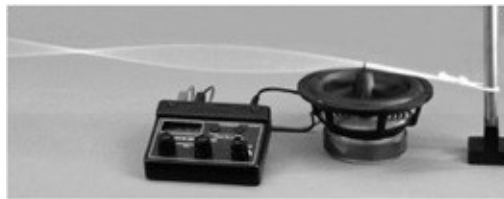

Figure 61-2 *Generating a standing wave. Courtesy PASCO.*
1. Standing waves can also be shown by vibrating (or rotating) a string held under tension by two vertical supports. Waves can be generated by a motor or a speaker, as picture in Figure 61-2.